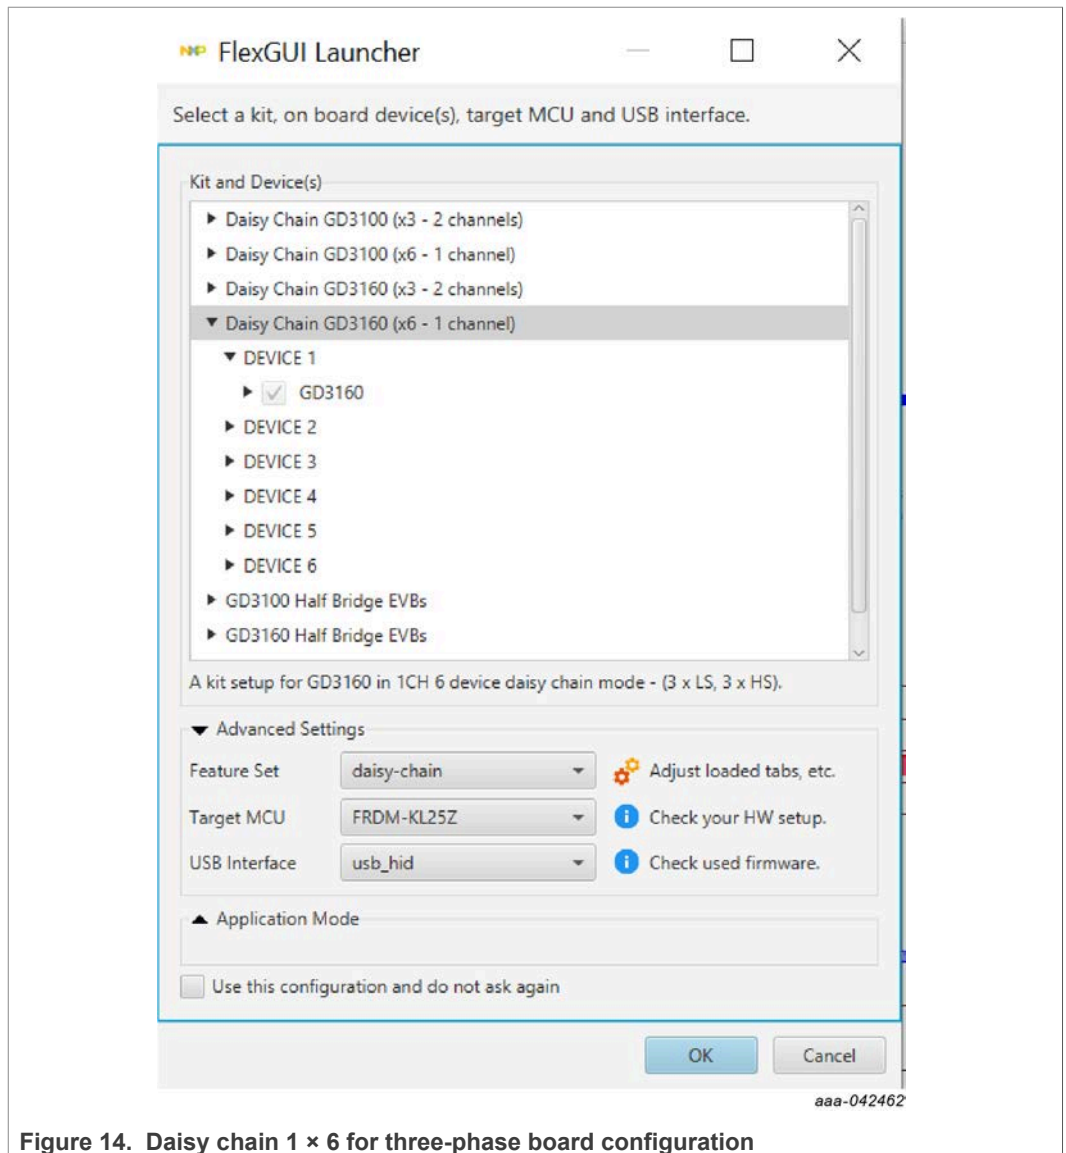

Figure 14. Daisy chain 1 × 6 for three-phase board configuration
5. Launch FlexGUI application software on PC, and select the Daisy chain GD3160 (x6 – 1 channel) kit mode (see Figure 14). Connect USB cable from PC to USB KL25Z port on KL25Z microcontroller board. KL25Z microcontroller is shipped with proper firmware already flashed. See Section 6 for additional details.